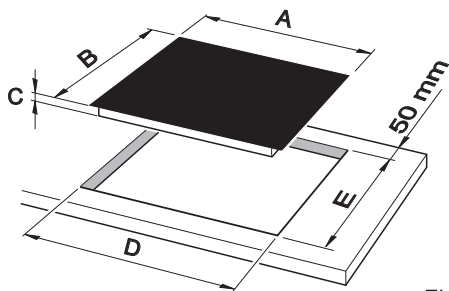

Fig. 1.1a
In order to install the ceramic hob into the kitchen fixture, a hole with the dimensions shown in figures 1.1a or 1.1b has to be made, keeping in consideration the following:
- Cut the unit according to the dimensions in fig. 1.1a or 1.1b.